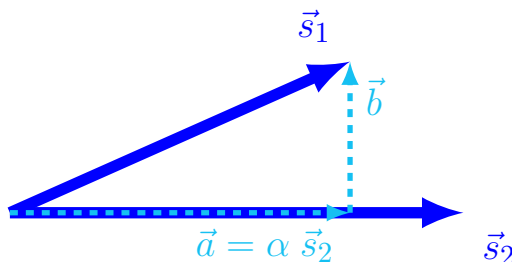

Figure 16: 2D figure of $\vec{s}_1 = \vec{a} + \vec{b}$.
- (e) It appears that making codes orthogonal to each other improves the robustness of our Acoustic Positioning System. Knowing this, we want to use our knowledge of projections to write our first code as $\vec{s}_1 = \vec{a} + \vec{b}$, where $\langle \vec{b}, \vec{s}_2 \rangle = 0$ and $\vec{a} = \alpha \vec{s}_2$ (for some constant α) as illustrated in Figure 16. **Compute α and \vec{b} in terms of \vec{s}_1 and \vec{s}_2 . Show your work and justify your answer.**